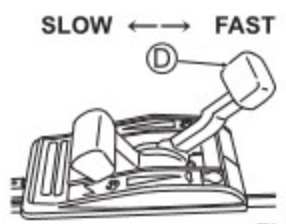

Fig. 7
5. Adjust the mowing speed with Gearshift lever (D). (See Fig. 7)